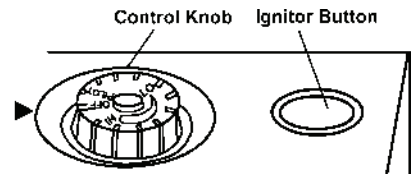

Figure 21 - Control Knob In The OFF Position (HR10TL)
4. Wait five(5) minutes to clear out any gas. Then smell for gas, including near the floor. If you smell gas, STOP! Follow "B" in the safety information on the side of heater. If you don't smell gas, go to the next step.
5. Turn control knob counterclockwise ↻ to the PILOT position. Press in control knob for five(5) seconds. (see Figure 21).